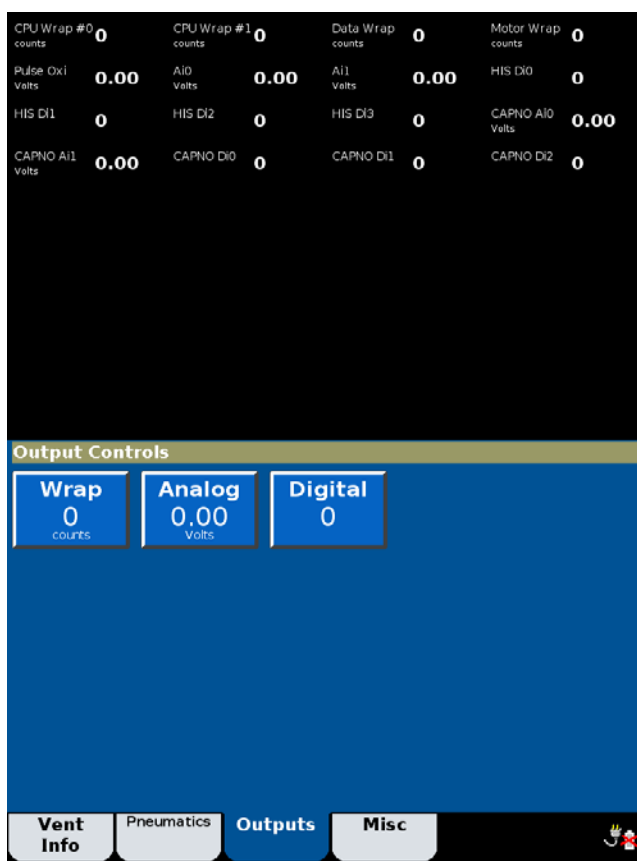

Figure 5-12: Output Controls Screen
2. The screen shows diagnostic information and output controls (Figure 5-12).